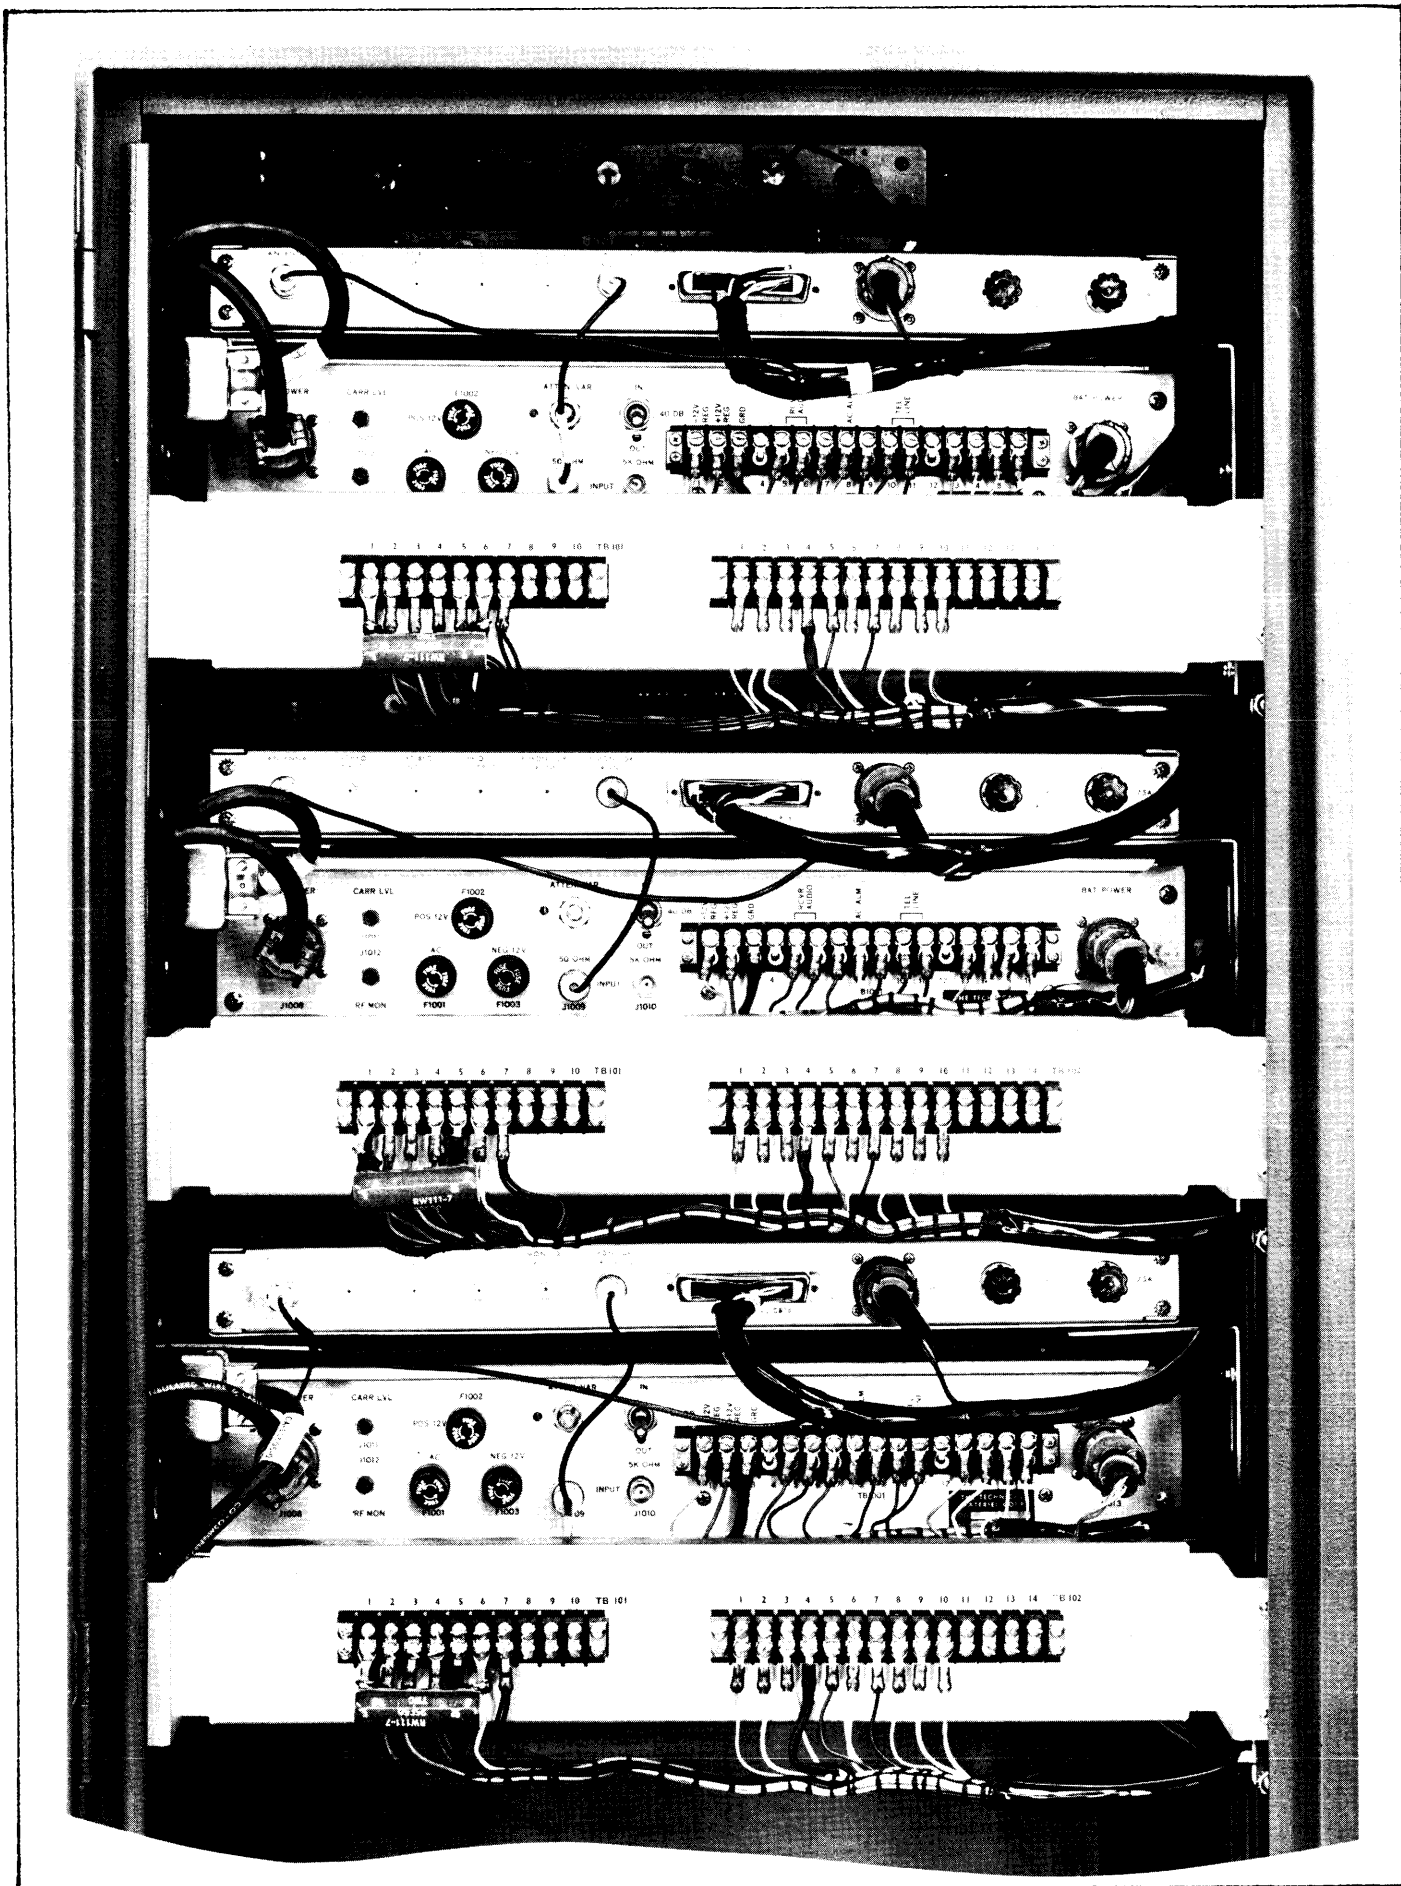

Figure 2-5. Interconnect Cabling Pictorial
(4) Interconnect the units in accordance with figure 2-5 and 7-1.
(5) A mating plug for the ac power input to the rack is supplied as a loose item (PL134). This should be used to make up a power cable (customer furnished) for the rack. The unit is shipped wired for 115 vac at 50/60 Hz.